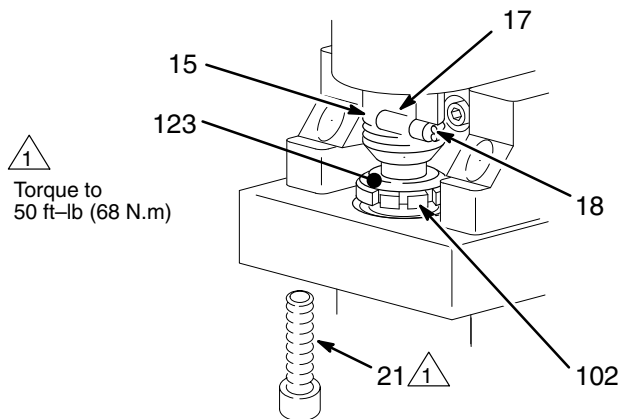

Fig. 18
Be sure the retaining spring (18) is firmly in the groove all the way around, to prevent the pin (17) from working loose due to vibration. See Fig. 18.